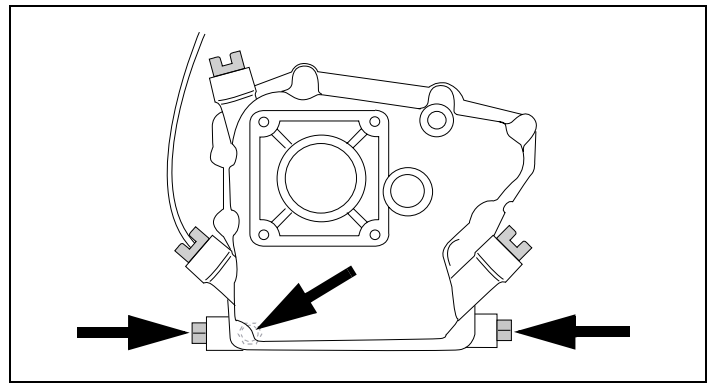

Figure 20. Possible Oil Drain Plug Locations
1. Be sure you find the correct drain plug location, if provided. See Figure 20.
4. Clean area around oil drain plug. See Figure 20.
6. Remove oil drain plug, if present. See Figure 20.